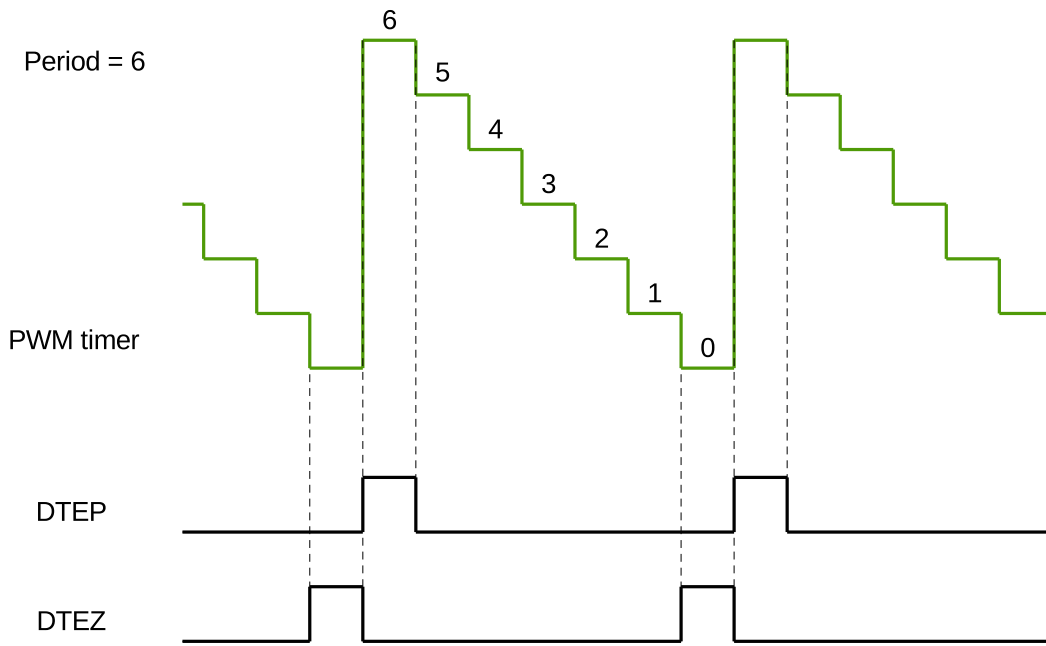

Figure 102: DTEP and DTEZ Generation in Count-Down Mode
2. DTEP and DTEZ do not happen simultaneously. When the PWM timer is in count-down mode, DTEZ will always happen one cycle earlier than DTEP, as demonstrated in Figure 102, so their action on PWM signals will not interrupt each other. When the PWM timer is in count-up-down mode, DTEZ will not occur.